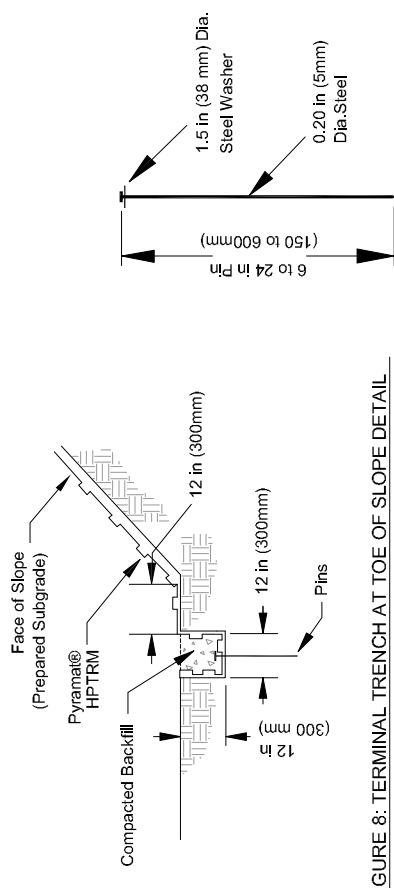

FIGURE 9: PIN DETAIL
- Metal pins should be at least 0.20 in (5 mm) diameter steel with a 1/2 in (38 mm) steel washer at the head of the pin (see Figure 9). Metal pins should be driven flush to the soil surface. Pins should be between 6-24 in (150-600 mm) long and have sufficient ground penetration to resist pullout. Longer pins may be required for looser soils. Heavier metal stakes may be required in rocky soils. Depending on soil pH and design life of the pin, galvanized or stainless steel pins may be required. Consult project plans and/or specifications for tie down device details.